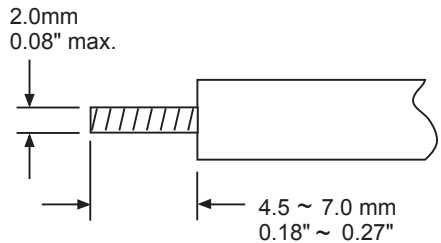

Figure 4.2 Lead Termination
- The "stripped" leads as specified in figure 4.2 below are used for power and sensor connections.